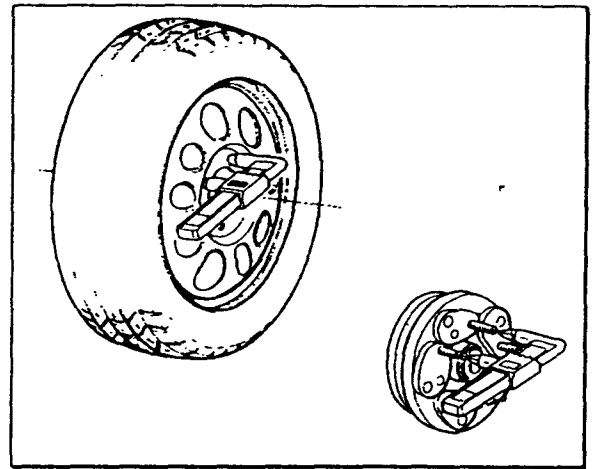

Fig.27
F. Adjust the studs at the right diameter (Fig.27).